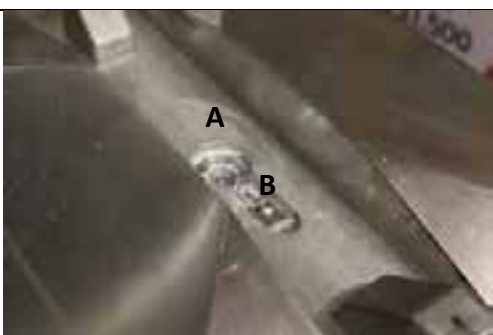

Figure 2.
3. Lubricate the top of the locking pin, and the ball seat (figure 2.).